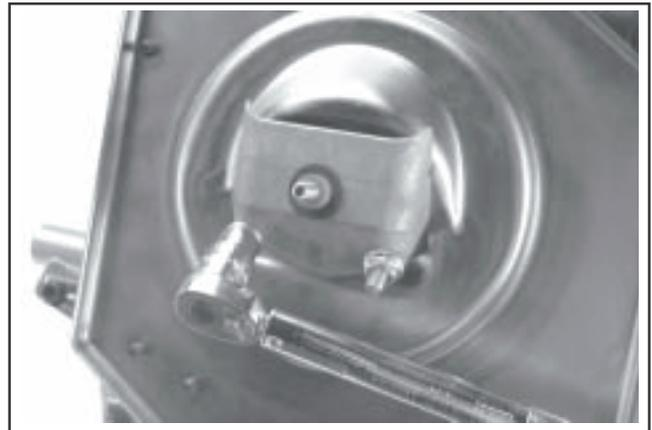

Figure 11-57. Installing Air Cleaner Base.
4. Install a new gasket, the spitback cup/collector plate/or air cleaner bracket as equipped, and secure with the hex nuts. Torque the hex flange nuts to **9.9 N·m (88 in. lb.)**. See Figure 11-57.